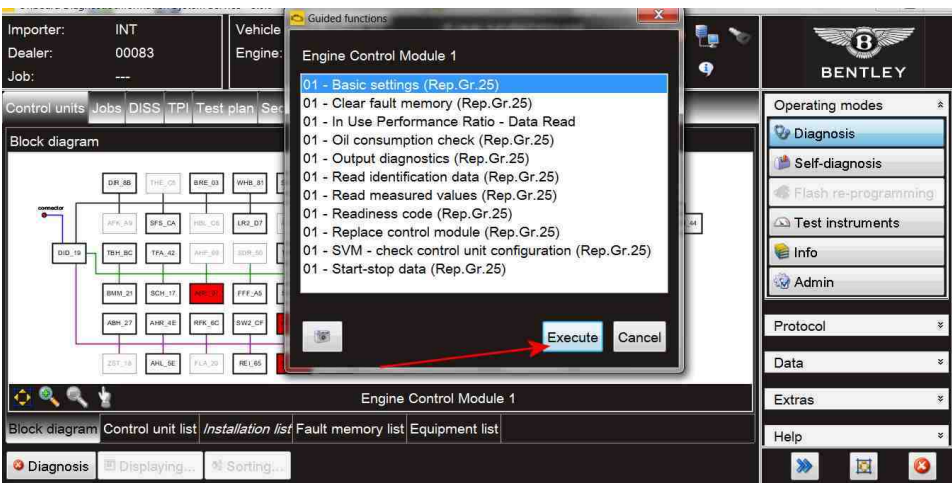

Figure 5
- Select Basic settings (Figure 5)